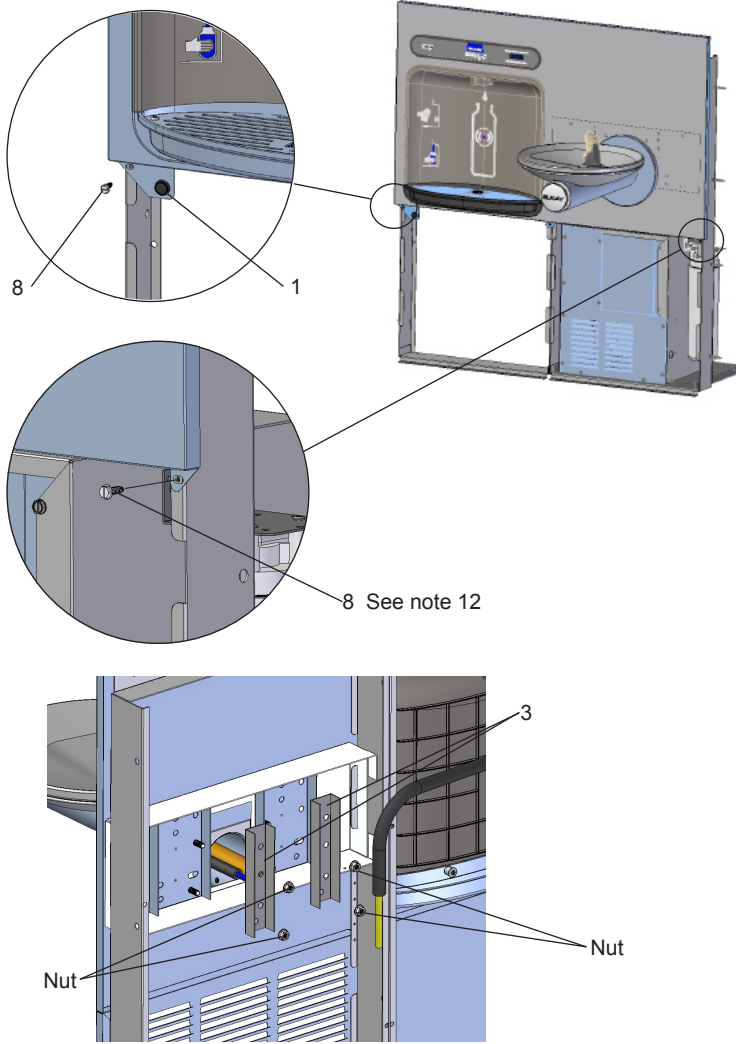

Figure 7 – Fountain Installation
7. Install reset switch for bottle filler (Fig 7). Connect the switch wire to the extension wire on the back of the bottle filler. Wrap up the excess cord.
10. **Install** fountains with (4) 5/16-18 HHMS, (4) 5/16-18 nuts & (2) support brackets (Item 3) (from original installation) (Fig 7). Connect the 1/4" water lines from the fountain to the remaining opening on the tee at the remote chiller (cut lines to fit as needed), (Test fit refrigerated panel to make sure there is a tight joint between it & the main panel before fully tightening mounting screws.)